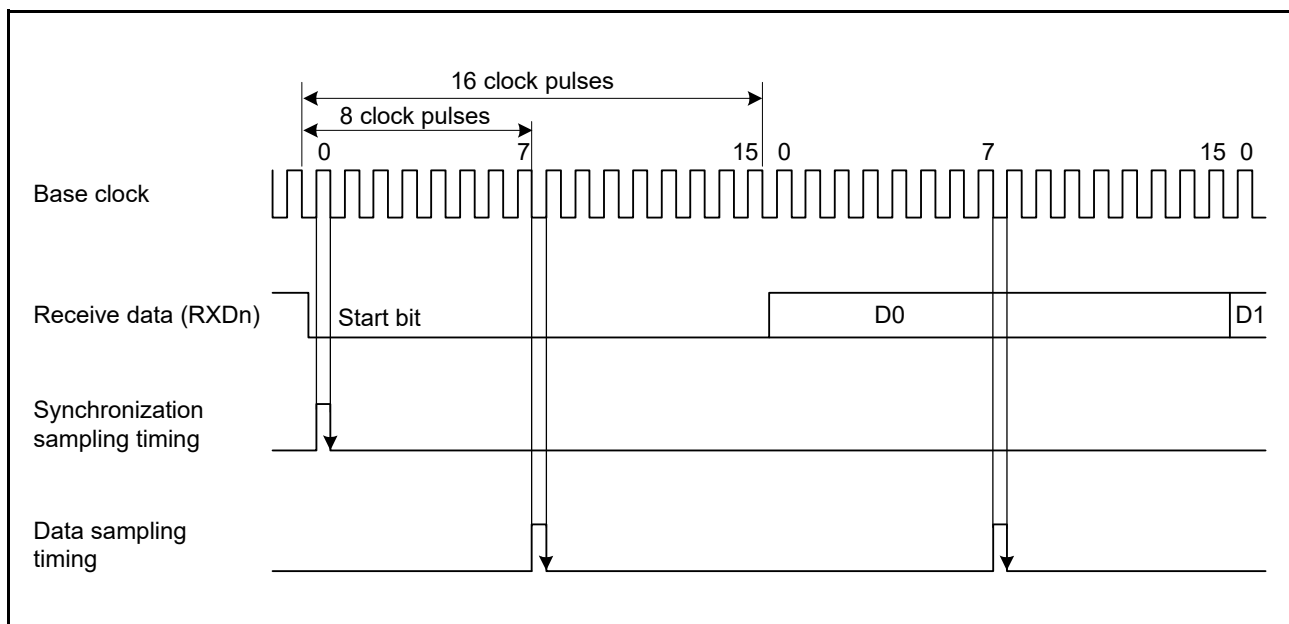

Figure 23.5 Receive Data Sampling Timing in Asynchronous Mode
In reception, the SCI samples the falling edge of the start bit using the base clock, and performs internal synchronization. Since receive data is sampled at the rising edge of the 8th pulse\*1 of the base clock, data is latched at the middle of each bit, as shown in Figure 23.5. Thus the reception margin in asynchronous mode is determined by formula (1) below.